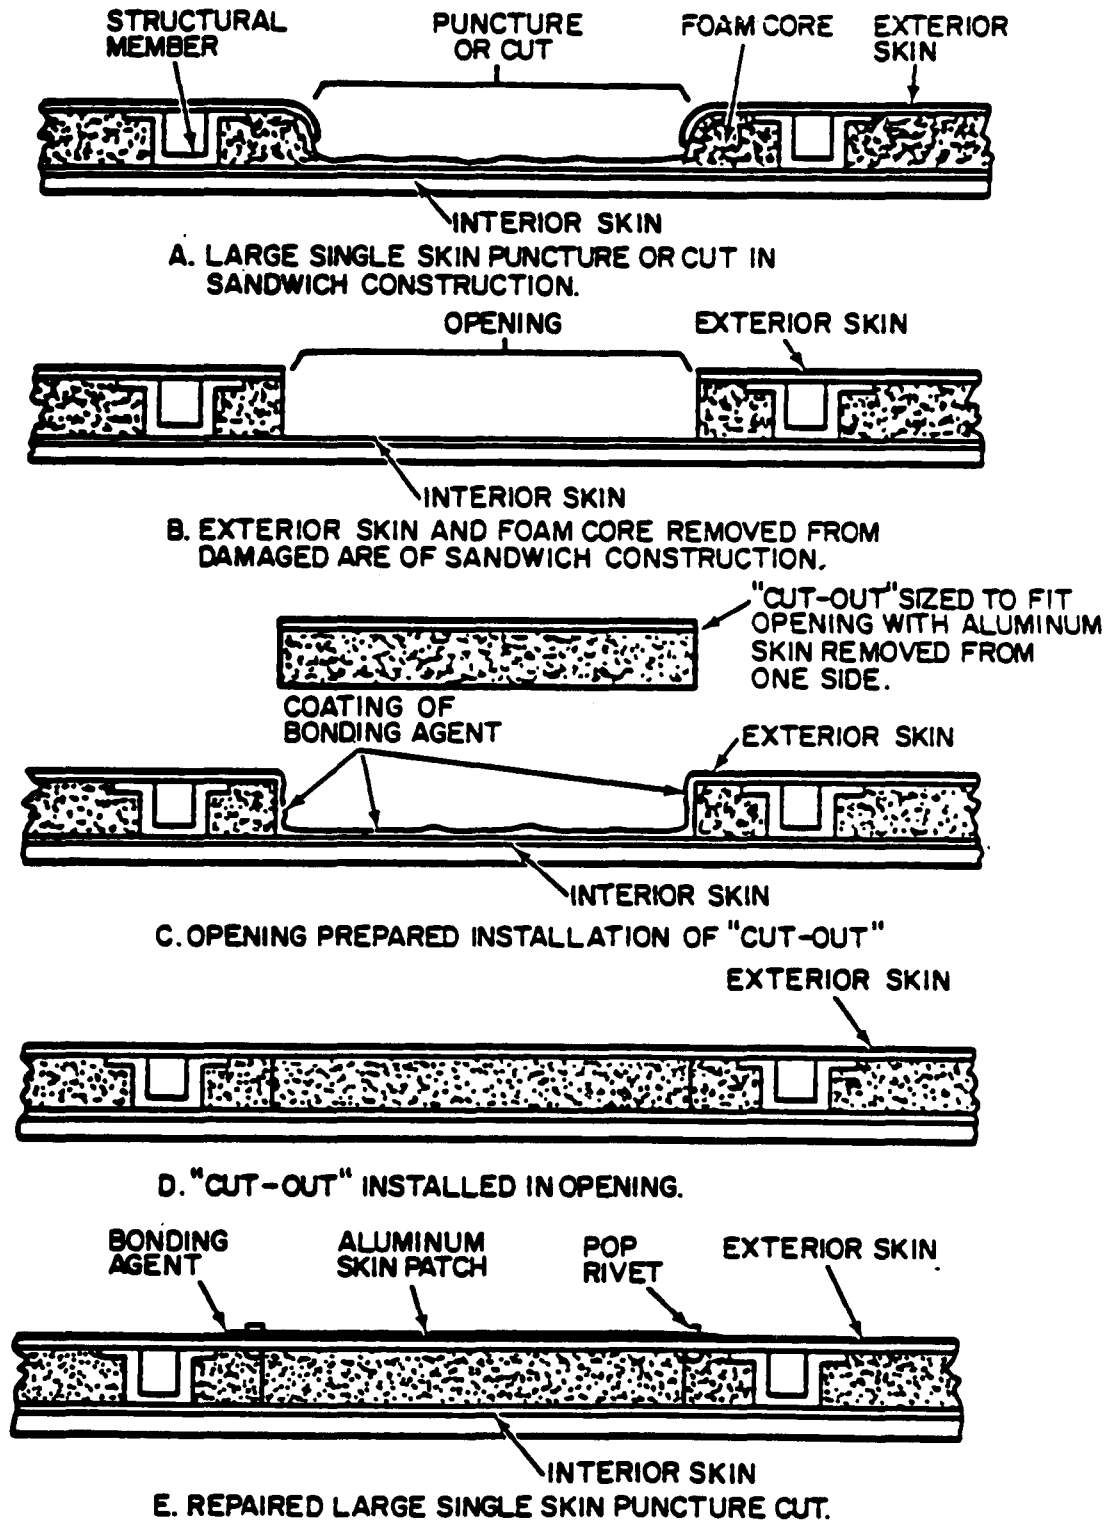

Figure 4-5. Shelter Wall Repair of Large Skin Puncture or Cut.
##### Repair. (Figure 4-5)
- (1) Select an aluminum skin patch that overlaps the puncture or cut by one inch in all directions.
- (2) Use the aluminum skin patch as a template positioned over the puncture or cut, and lightly scribe the area of the aluminum skin patch on the skin of the shelter.
- (3) Use a saw to cut and remove the punctured or cut skin area approximately one inch within the scribed mark (A and B, Figure 4-5).
- (4) Cut the foam core evenly along the edges where the skin is removed and remove the damaged foam core (B, Figure 4-5), maintaining perpendicular and straight edges.
- (5) Select a piece of block insulation or a cutout of the same type sandwich construction (C, Figure 4-5).
- (6) Size the block insulation or cutout to fit the opening where the skin and foam were removed. If a cutout is used, remove the aluminum skin from one side of the cutout.
- (7) Remove all paint or foreign matter from the overlap area on the skin of the shelter and an area approximately one inch around the scribed mark using emery cloth and cleaner. If the cutout is used, remove all paint or foreign matter from the aluminum skin of the cutout.
- (8) Roughen the skin surface with coarse grit emery cloth. If a cutout is used, roughen the surface of the aluminum skin.
- (9) Coat the interior of the opening where the skin and foam core were removed with mixed adhesive (paragraph 4-7.b.(4)).
- (10) Insert the block insulation or cutout into the opening where the skin and foam core were removed (D, Figure 4-5).
- (11) With the aluminum patch over the puncture area, drill #30 holes, around the perimeter of the patch, 1/2 inch from edge of patch and on one inch centers.
- (12) Coat the exposed block insulation or cutout and the overlap area with mixed adhesive.
- (13) Dip the pop rivets in the mixed adhesive and use the riveting tool for pop rivets to install the aluminum skin patch as shown (E, Figure 4-5).
- (14) Smooth and taper mixed adhesive (squeezed out during the riveting process) along the edges of the aluminum skin patch and immediately remove excess mixed adhesive with cloth saturated in toluene solvent.
- (15) Prime and paint the repaired surface. (Refer to paragraph 4-12.)
- (16) Inspect the repaired area to ensure that rivets and paint were applied correctly.